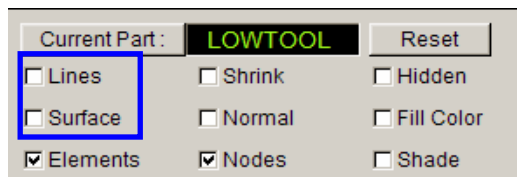

Figure 5.69 Display options
5. Toggle off the checkbox of **Lines** and **Surfaces** in **Display Options** located at the lower right side of screen. See Figure 5.69.